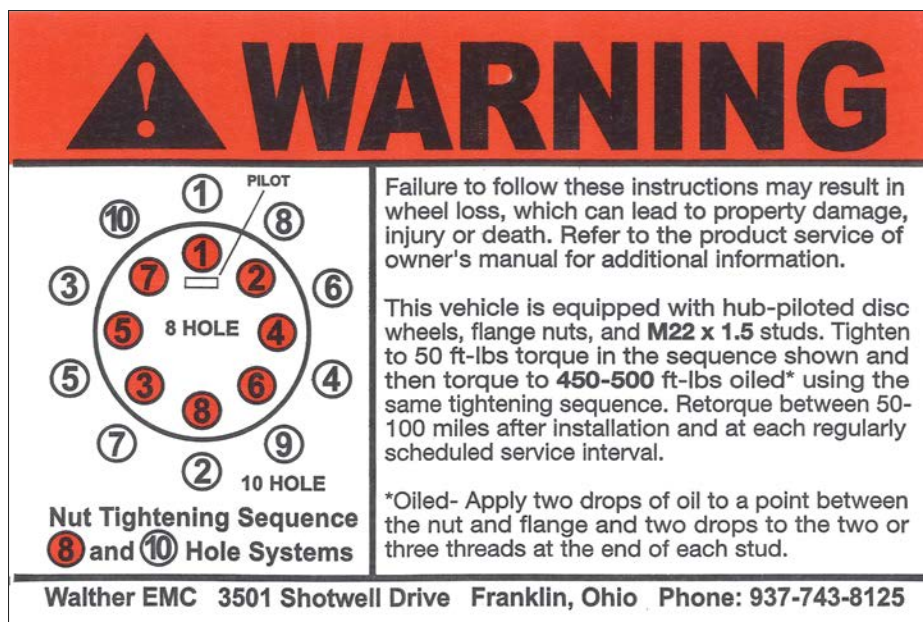

Figure 41 – Hub-Piloted Torque Sequence
- Move to stud #2 following the sequence on the decal shown in Figure 41. Repeat step A through C above.
- n. Torque the securing nuts to the 50 ft-lb value specified in the decal shown in Figure 41, to snug the wheels in place.
- q. Final torque the securing nuts to 475 Ft-lb following the sequence on the decal in Figure 41.